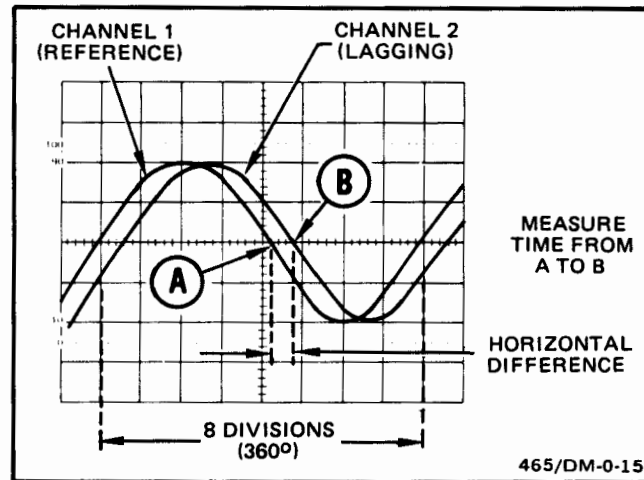
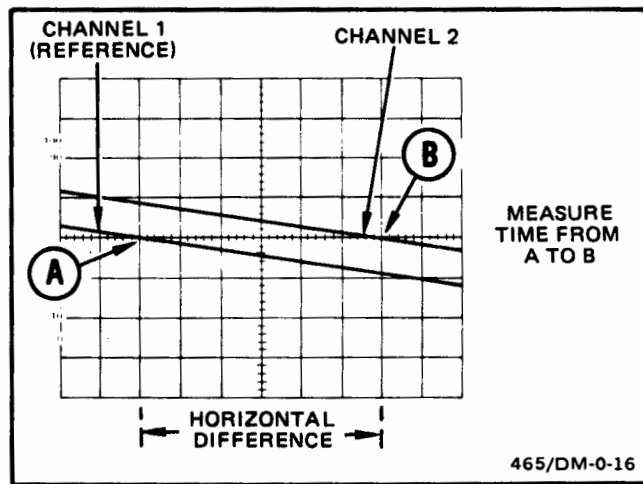

Figure 21. Phase difference.
Figure 22. High resolution phase difference.
7. Set the TIME/DIV switch to show about one cycle of the waveform. Position the display and adjust the VAR TIME/DIV control to place one reference signal cycle in exactly eight divisions at the 50% risetime points (see Figure 21). Each division of the graticule now represents  $45^\circ$  of the cycle ( $360^\circ \div 8$  divisions) and the sweep rate can be stated as  $45^\circ/\text{division}$ .
**EXAMPLE:** The horizontal difference is 0.6 division with a sweep rate of  $45^\circ/\text{division}$  as shown in Figure 21.
More accurate phase measurements can be made by using the X10 MAG mode to increase the sweep rate without changing the VAR TIME/DIV control (see Figure 22).
**EXAMPLE:** If the sweep rate were increased 10 times with the magnifier (X10 MAG), the magnified sweep rate would be  $45 \div 10 = 4.5^\circ/\text{division}$ . Figure 22 shows the same signals used in Figure 21, but the X10 MAG push button is depressed, resulting in a horizontal difference of 6 divisions. The phase difference is: